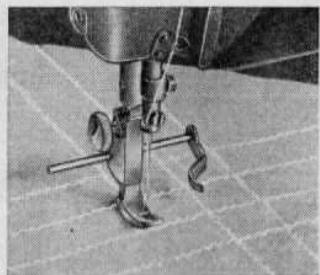

FIG. 44
b. with adjustable guide presser foot for narrow spacing: Remove hinged zig-zag presser foot and install narrow presser foot with guide attachment seen in fig. 44. Leave presser foot in raised position.